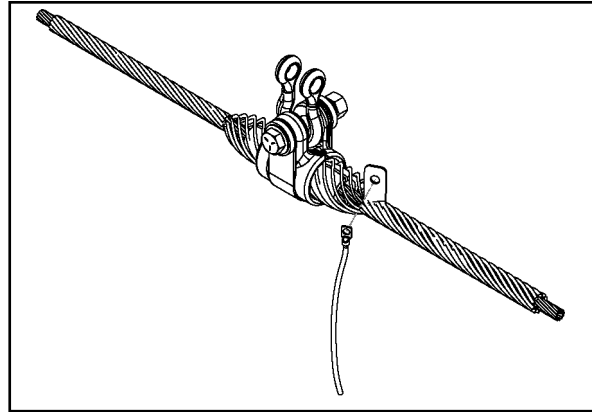

FIGURE 16
- 4.04 Attach bonding strap to current transfer tab using suitable bolt, nut and washer. Check completed application. (Figure 16)